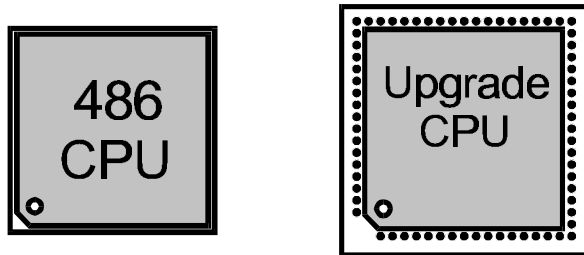

*Figure 2: 486 CPU socket (168 pins) beside empty OverDrive socket (169 or 237/238 pins).
- ◆ For some 486 computers, the 486 CPU is permanently soldered to the motherboard, and an OverDrive socket is available. In this case you do not remove the original CPU, and you install the upgrade in the OverDrive socket. See Figures 2, 3, and 4.